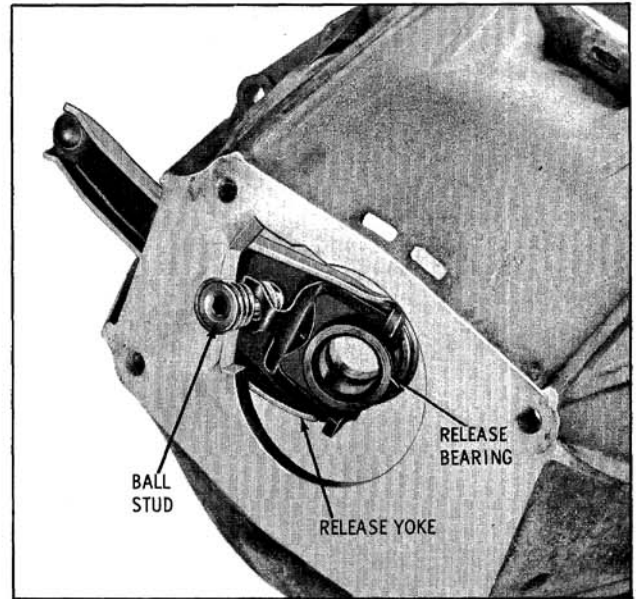

Fig. 7-85 Clutch Release Bearing
4. Remove flywheel housing leaving starter attached to engine. Release yoke and ball stud will remain with housing. The clutch release yoke, boot and ball stud are accessible for service. (Fig. 7-85)